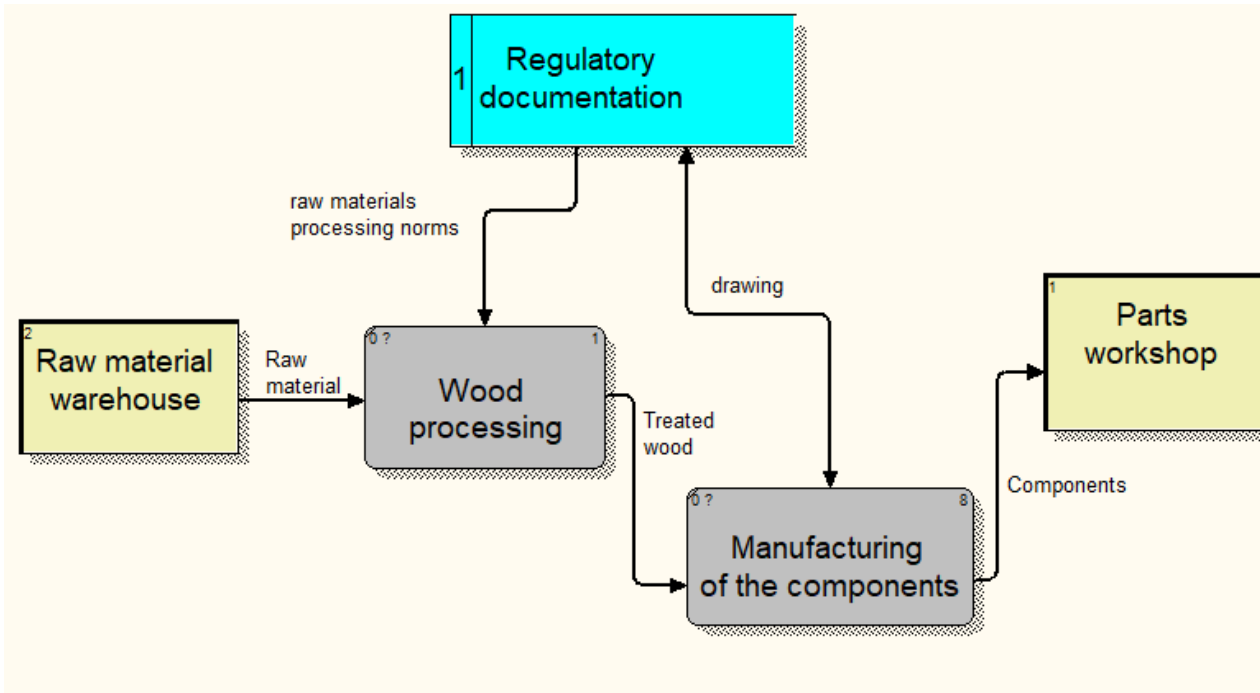

Fig. 5.6. Example of a DFD chart
similar to the physical characteristics of the system - data flows, data stores, supply and distribution of external entities (fig. 5.6).
4. Compare your diagram with fig. 5.6.